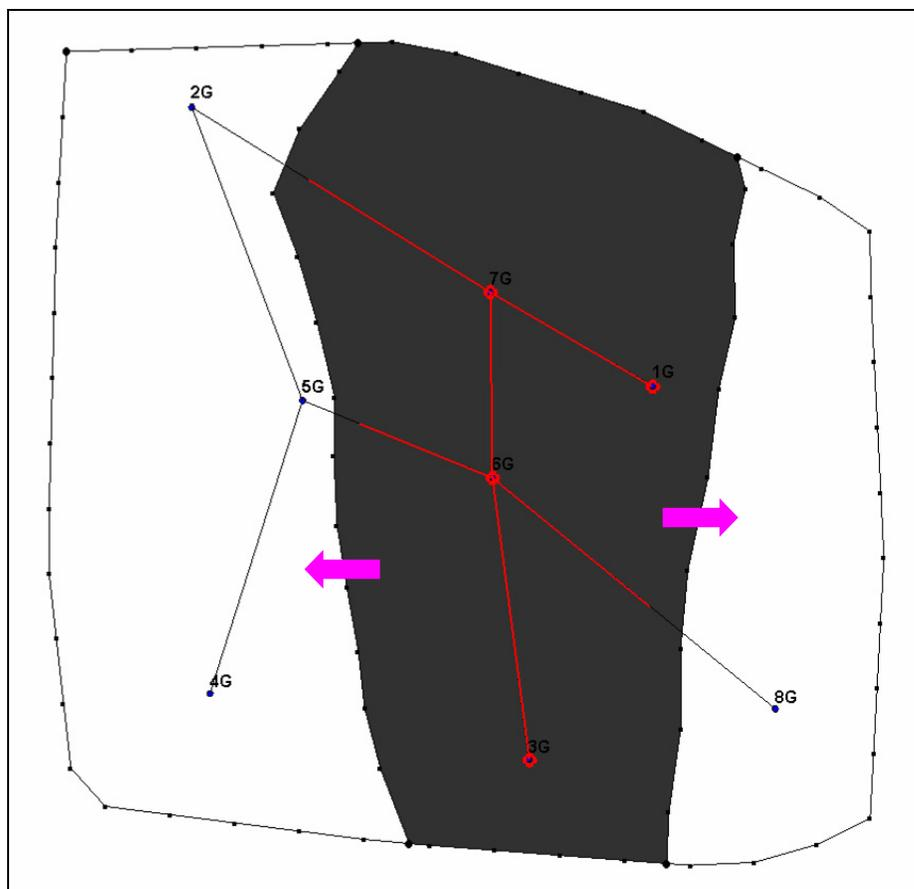

Figure 5. Polygons to be Deleted.
2. Delete the two polygons on the left and right of the model identified by the arrows in Figure 5 (click inside each polygon to select it and hit the delete key). Solids will only be created where a polygon exists.